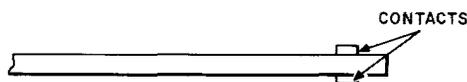
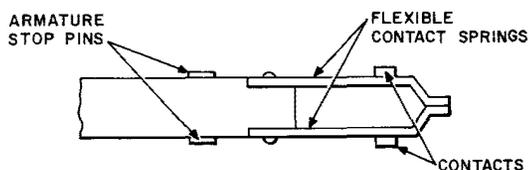

Fig. 17—Solid Armature on 206- and Similar-Type Relays
Fig. 18—Standard Type of Flexible Contact Springs on 206- and Similar-Type Relays
4.20 206-, 209-, 215-, 231-, 239-, 255-, and 280-Type Relays (Except Telegraph Transmission Relays) Equipped with Solid Armature Illustrated by Fig. 17 or Standard Type of Flexible Contact Springs Illustrated by Fig. 18: Insert the 266E blade in the 265C contact burnisher holder with the wide end outward. Insert